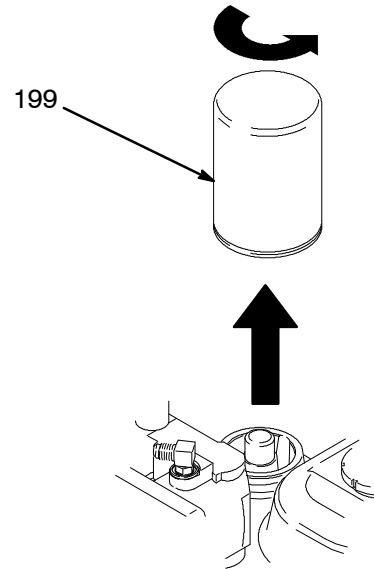

Fig. 6
1. Fig. 6. Place drip pan or rags under sprayer to catch hydraulic oil that drains out.
2. Remove drain plug (195). Allow hydraulic oil to drain.
3. Unscrew filter (199) slowly – oil runs into groove and drains out rear.